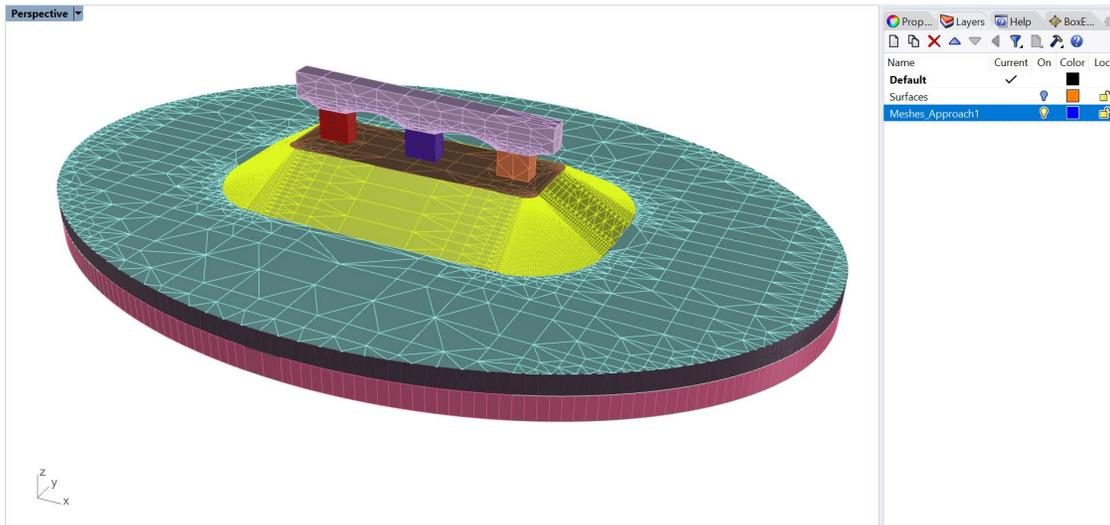
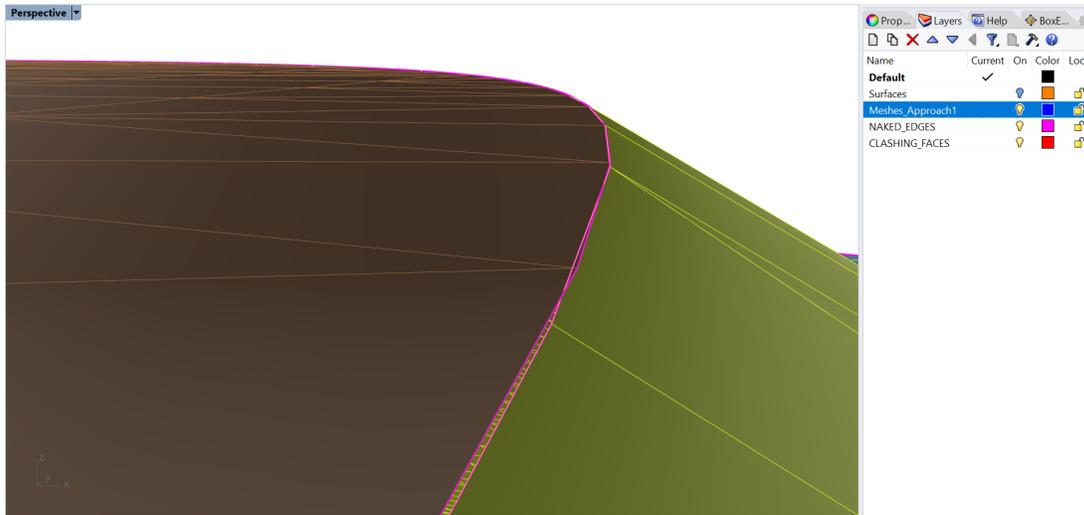

Figure 20: The initial *Rhino* mesh.
Figure 21: Mismatching mesh boundaries in the initial *Rhino* mesh.
The mesh in Figure 20 is not conformal and contains gaps along the curved boundaries (Figure 21). This is due to fact that surface meshes are a discrete representation of the initial analytical (in this case, BRep) surfaces, and the mesh for each object is created independently from any other objects. The gaps and non-conformal faces can be fixed by intersecting meshes using the **GInt** surface mesh intersector with a properly selected tolerance. Having a watertight surface mesh domain is a required condition for volume meshing. At the same time, making all model meshes fully conformal is usually needed but is not always required for volume meshing (e.g., separate watertight domains must contain conformal surface meshes but the domains themselves may be non-conformal in the areas of contact).
12. Undo the last operations (**_Hide/_Show**, **_GHeal**, **_GInt**) by pressing **Ctrl+Z** until the initial *Rhino* mesh is shown as in Figure 20.